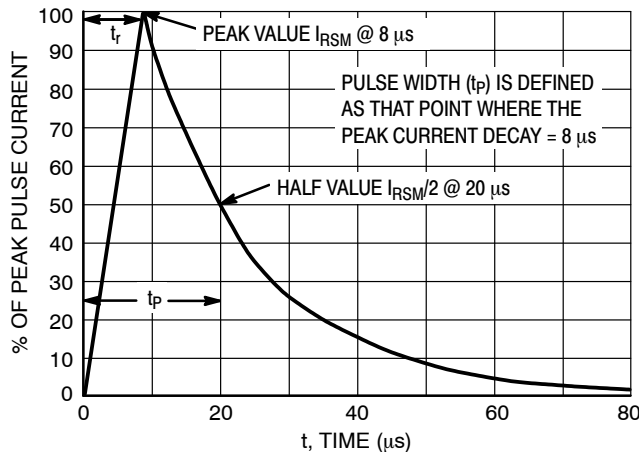

Figure 7. 8 x 20 μs Pulse Waveform
- Surge current waveform per Figure 7.